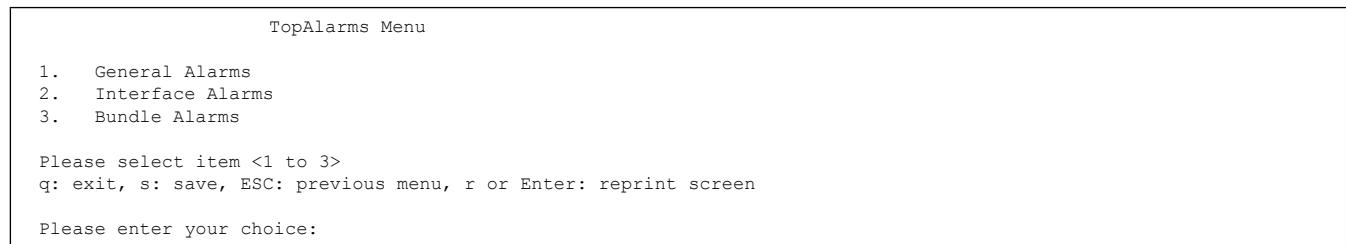
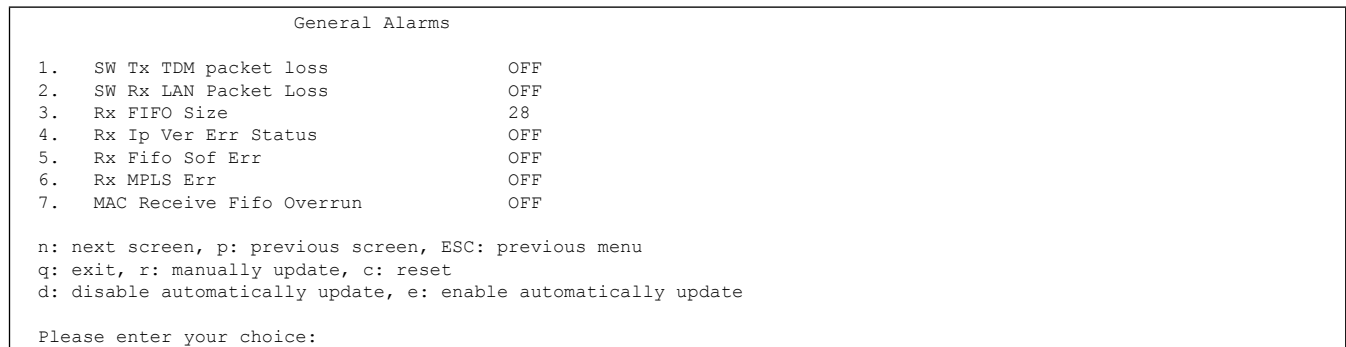

Figure 5-1. TopAlarms Menu
Figure 5-2. General Alarms Menu
To view alarms select **Alarms** from the **Main Configuration (S132)** menu. The **TopAlarms Menu** appears as shown in Figure 5-1.
To display general alarms, from the **TopAlarms Menu** (Figure 5-1) select **General Alarms**. The **General Alarms** menu appears (Figure 5-2).
- 1) From the **TopAlarms Menu** (Figure 5-1) select **Interface Alarms**.
- 1) From the **TopAlarms Menu** (Figure 5-1), select **Interface Alarms**.
- 1) From the **TopAlarms Menu** (Figure 5-1), select **Bundle Alarms**.